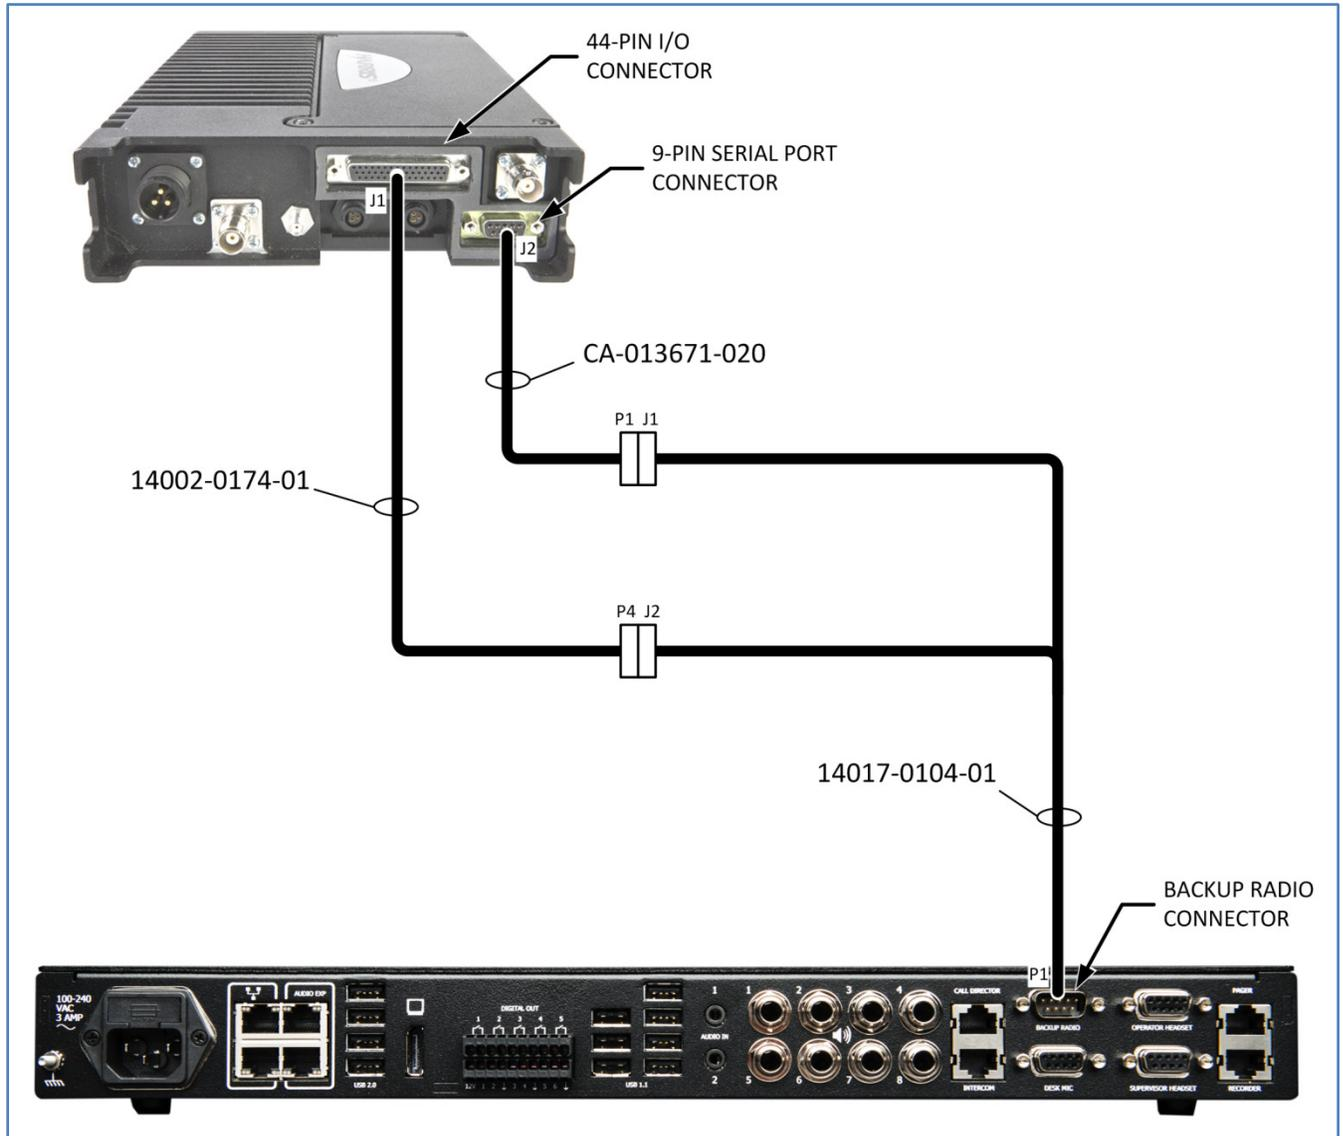

Figure 6-13: Sample Backup Radio Cable Interconnection Diagram (XG-100M Shown)
1. Connect the Backup Radio Interface Cable DB-9M connector P1 to the Symphony Dispatch Platform **BACKUP RADIO** connector as shown in Figure 6-13.